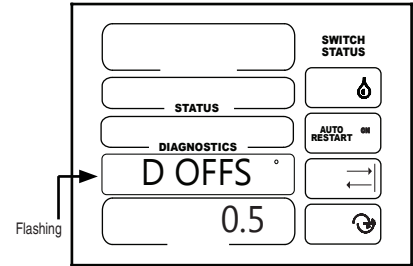

Figure 33-1
2. Press **SELECT** eight times to access the direction offset screen. See figure 33-1.